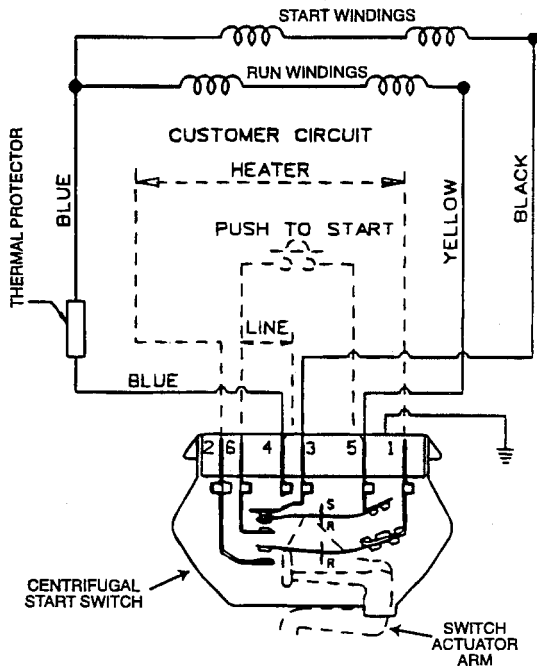

Figure 2-4
With the wire harness connector removed press inward on the brown actuator disc in the motor. The start and run winding can now be checked for proper ohms. Place the leads from an ohm meter on the proper terminals as listed in the following chart, (See Figure 2-4).
Two test leads are required to check operation of the dryer drive motor. To check the motor for operation, hook up the test cord to terminals 4 and 5, (See Figure 2-4).
2. Place ohm meter leads to terminals 1 and 2, (See Figure 2-4).